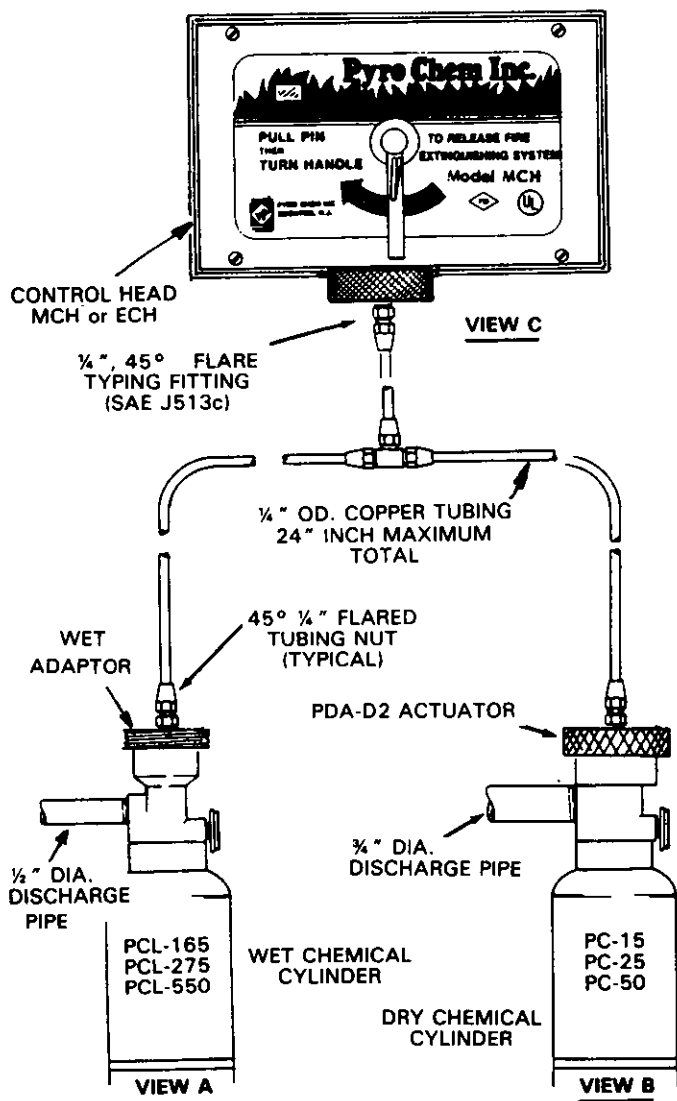

Figure 4-9. Cylinder, Actuator and Tubing Installation
The Pyro Chem Model MCH or ECH must be installed with a Model MB-P2 mounting bracket. The bracket must be securely anchored to the wall using bolts or lag screws. (See Figure 4-9). The wall must be sufficiently strong enough to support the Pyro Chem MCH or ECH control head. Approximate weight is six (6) pounds.